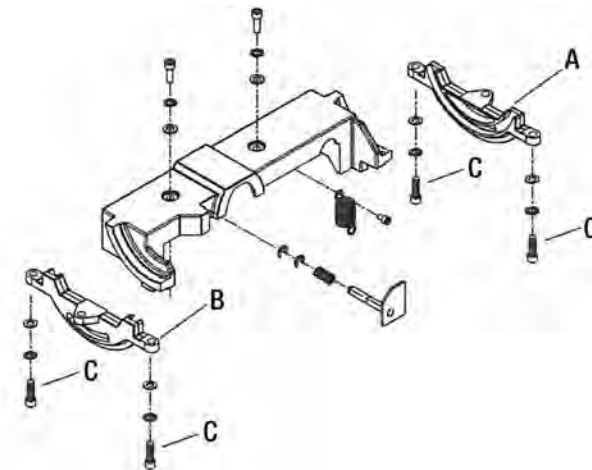

FIGURE 37
- 3) The position of the rear trunnion (A) Fig.37 and the front trunnion (B) needed to be adjusted, loosen 4 trunnion cap screws (C), adjust blade parallel to miter gauge T-slot. Reverify your adjustment measuring the front and rear of the blade to make sure the distance is the same. Once adjustment is perfect, retighten 4 cap screws to secure adjustment.